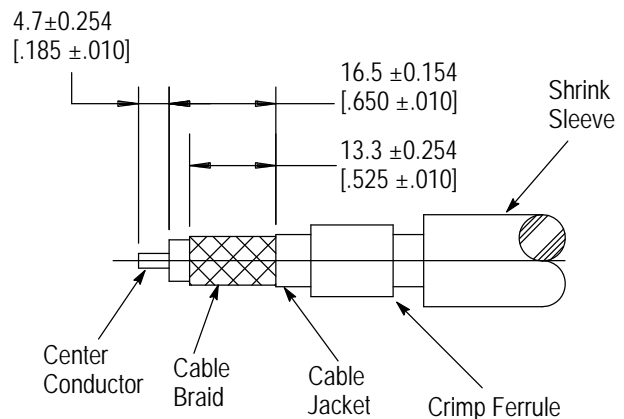

Figure 3
2.1. Preparing the Cable (Figure 3)
2. Strip and trim the cable end to the dimensions shown in Figure 3.